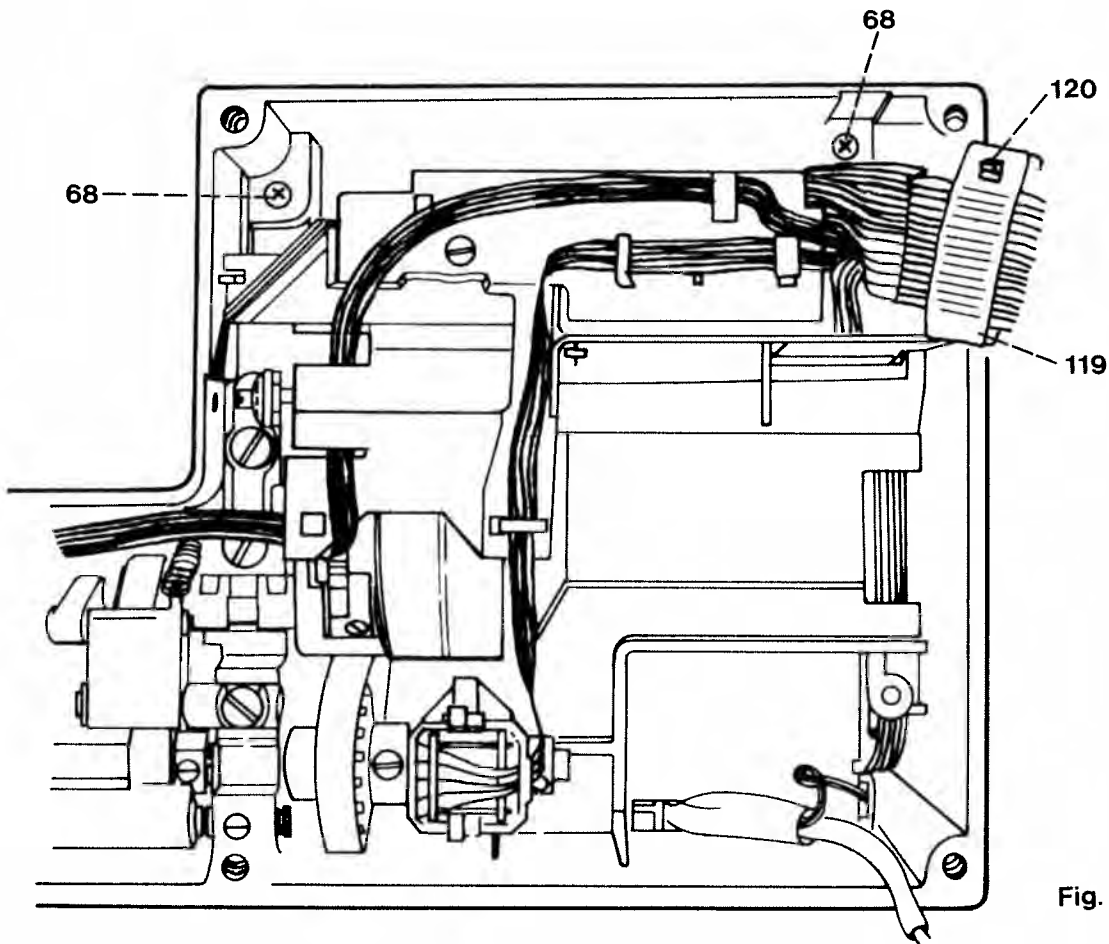

Fig. 34b
- Unscrew both screws 68 (Fig. 34b).